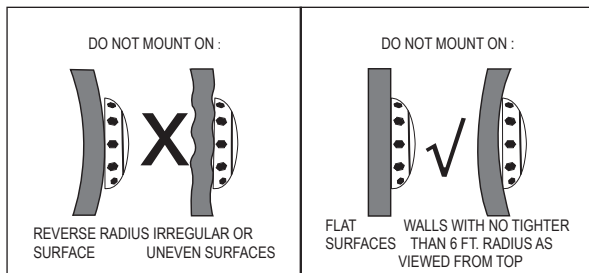

Figure 3.
3. If pool surface is to be plastered, you must allow proper concrete cutback for piaster thickness . Finish concrete surface must be flush with Mounting Spacer . CAUTION : Finish area surrounding Mounting spacer MUST be flat and flush with the face of Mounting Space , this ensures a snug fit between light and wall, see Figure 3.